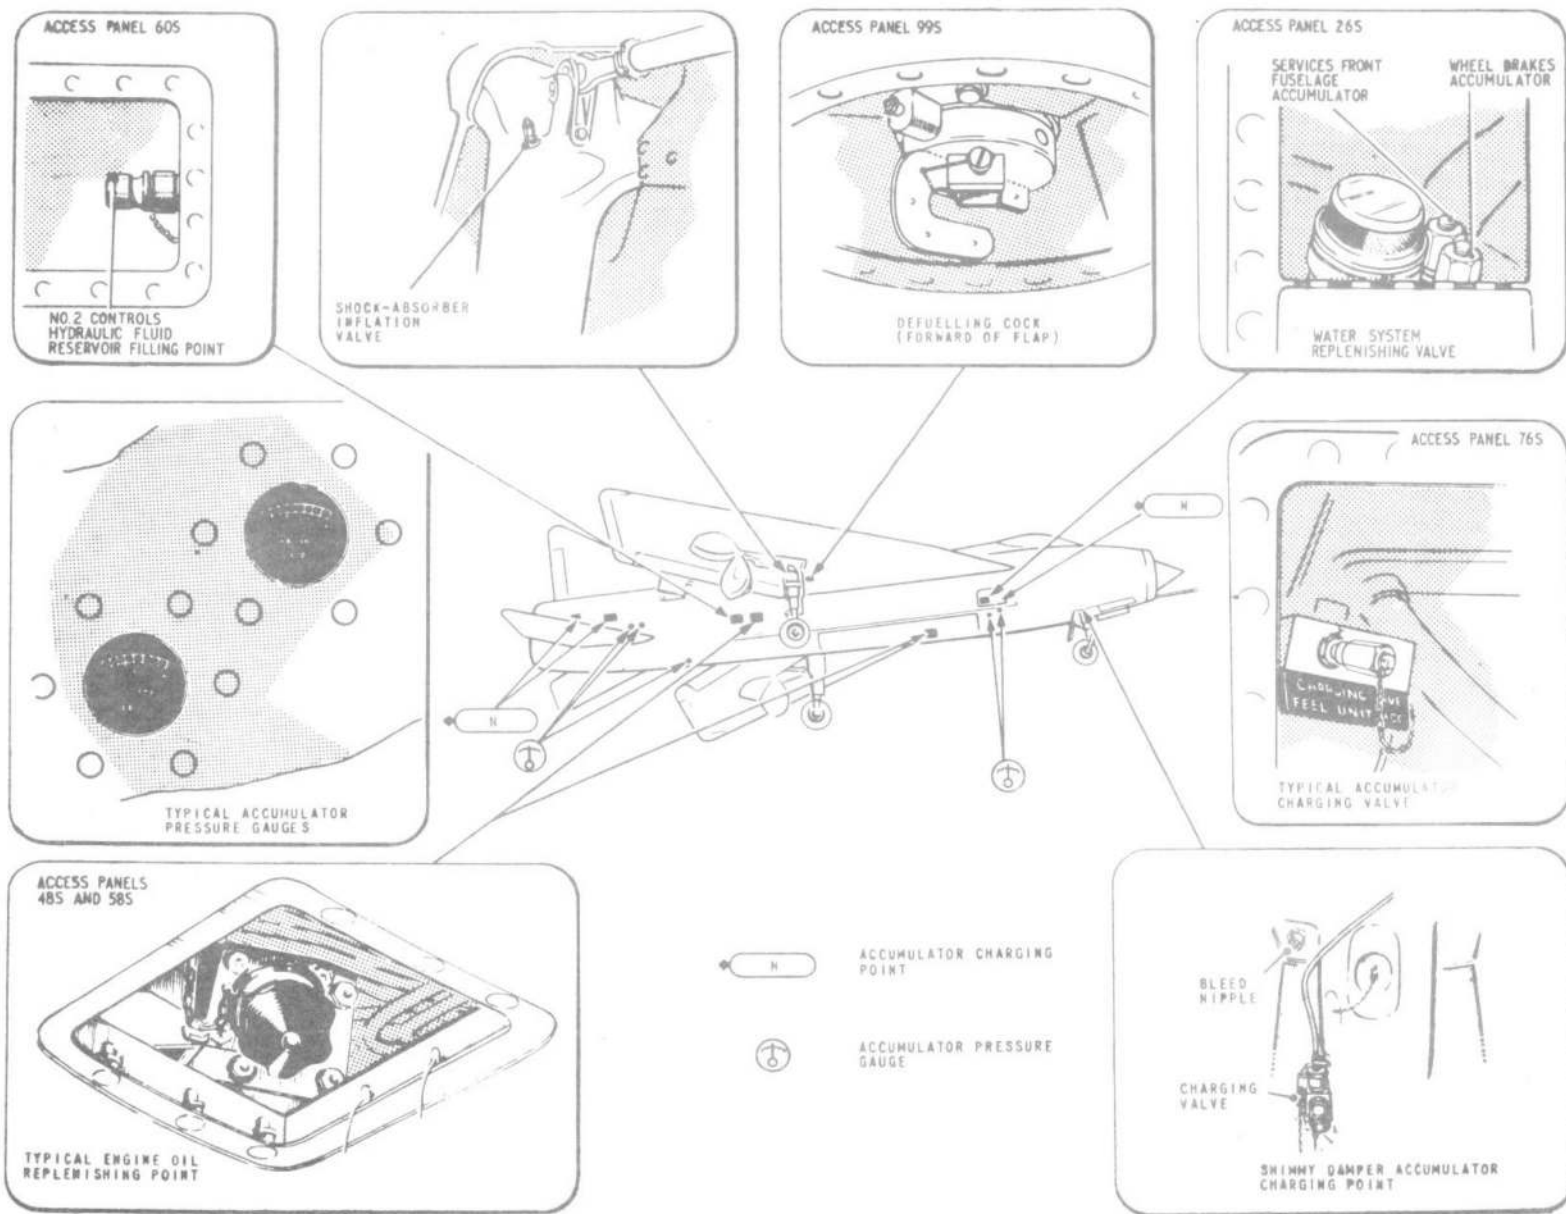

FIG.2. SERVICING POINTS (2)
4. The aircraft is defuelled by applying suction at the refuelling adapter (access panel 63P), using a refuelling tanker on which the cocks have been set to permit flow from the aircraft to the tanker; defuelling depression must not exceed 11 lb/in2. Prior to defuelling, all d.c. electrical supplies must be disconnected, and the engine H.P. cocks closed. The tanks may be defuelled individually or in similar pairs by appropriate selection (Table 1) of the two defuelling cocks (fig.2). Access to the cocks is gained through circular panels in access panels 99P and 99S; the panels can be fitted only when the cocks are at NORMAL, i.e. in the flight position and, with the panels in position, the cocks are locked.